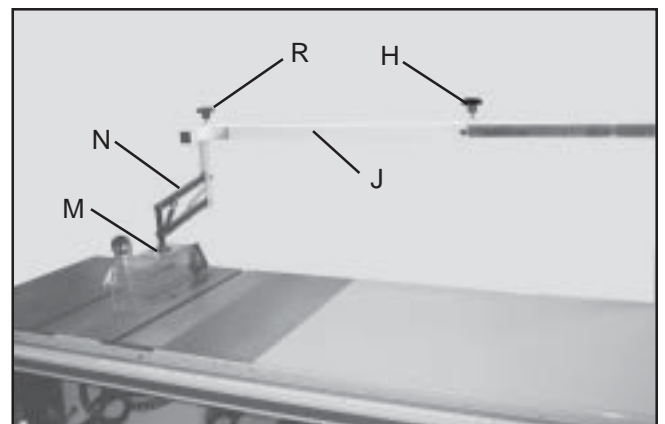
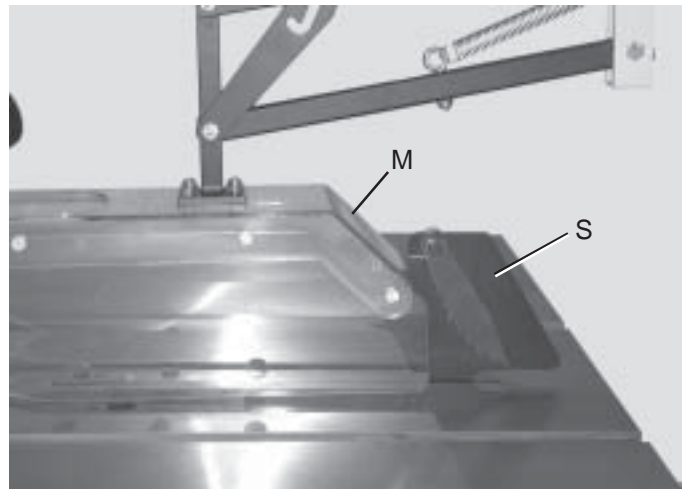

Fig. 21
Fig. 22
20. Loosen the two locking knobs (R) & (H) Fig. 21, and adjust T-arm (J) and blade guard basket assembly (N) until the guard basket (M) is centered over the saw blade.
21. **IMPORTANT:** Make certain the rear end of the guard basket frame (M) Fig. 22, is 3/8" away from the front of the splitter (S) and tighten the two locking knobs (R) and (H) Fig. 21.